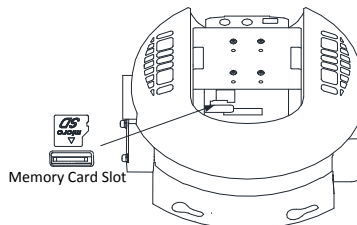

Figure 2-27 Memory Card Slot
- Refer to Figure 2-27 for memory card slot of DE5xxx series speed dome.